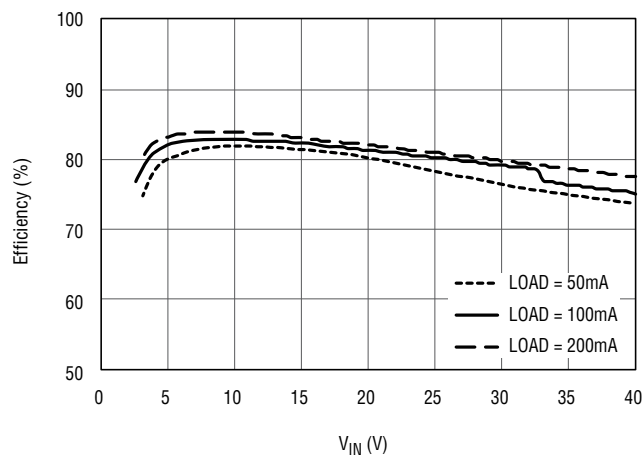

Figure 2. DC2119A Efficiency in Burst Mode
3. Connect a 500mA load to V_{OUT} as shown in Figure 2 (10Ω for $V_{OUT} = 5V$). Connect an ammeter if accurate current measurement or monitoring is desired.